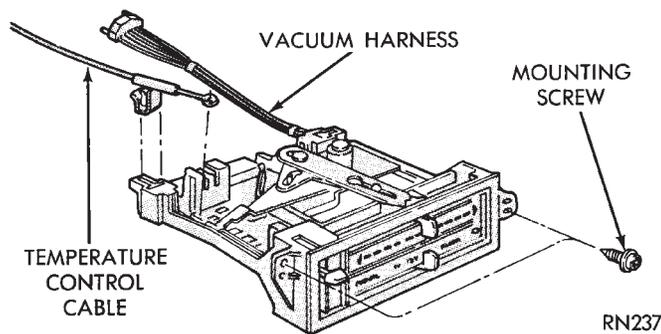

Fig. 50 A/C Control
- (1) Remove center bezel. Disconnect ash receiver lamp socket.
- (2) Remove glove box assembly. Refer to Glove Box Assembly Replacement.
- (3) Reach through glove box opening and disconnect vacuum lines.
- (4) Remove two control mounting screws (Fig. 50).